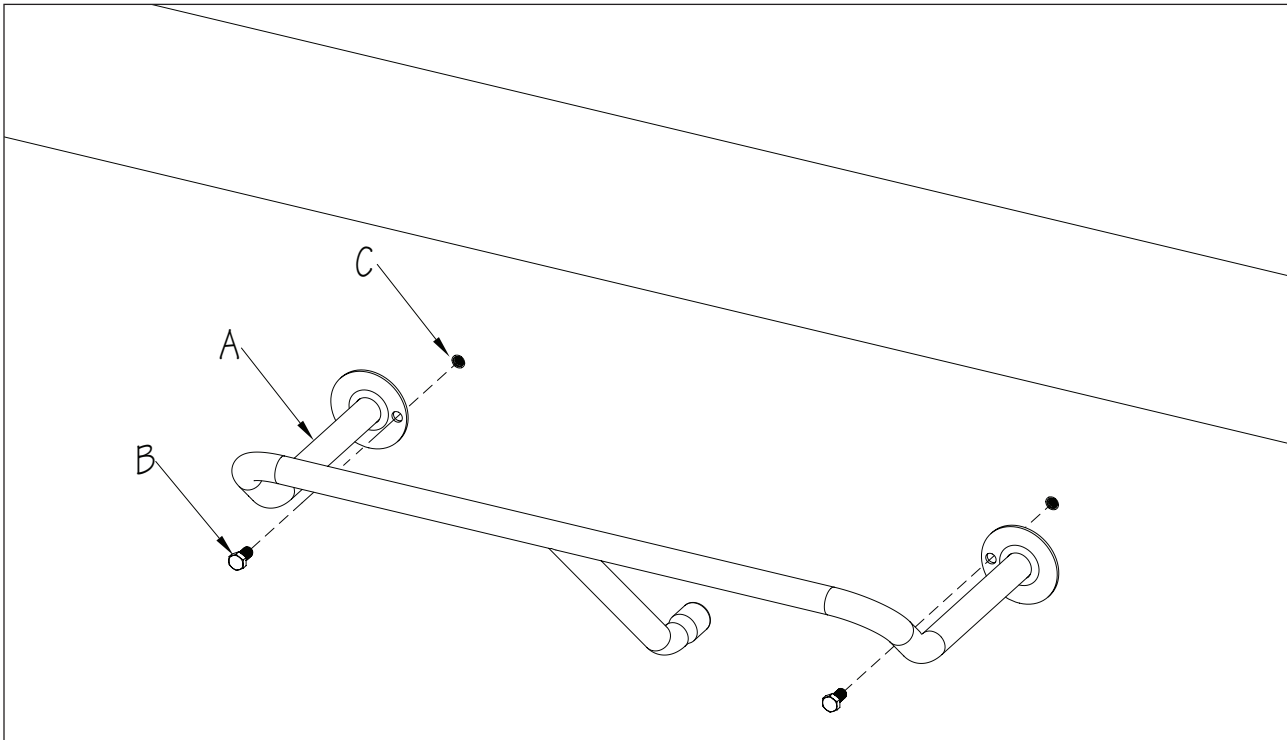

Fig. 18
6. Attach the Grab Bar (A) to the pool wall using the 1-1/4" (32mm) Hex Head Bolts (B). The bolts will thread into the Couplers or Rivet Nuts that were installed into the pool wall during the mounting kit installation. If being installed in a pool with a vinyl liner, apply silicone around the front and back of the mounting holes, in the flanges of the Grab Bar, prior to installing (Fig. 18).